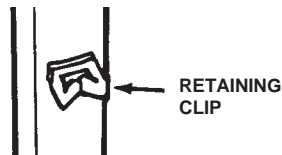

Figure 2
STEP 4. Insert retaining clip into hole just below download connection. See Figure 2.